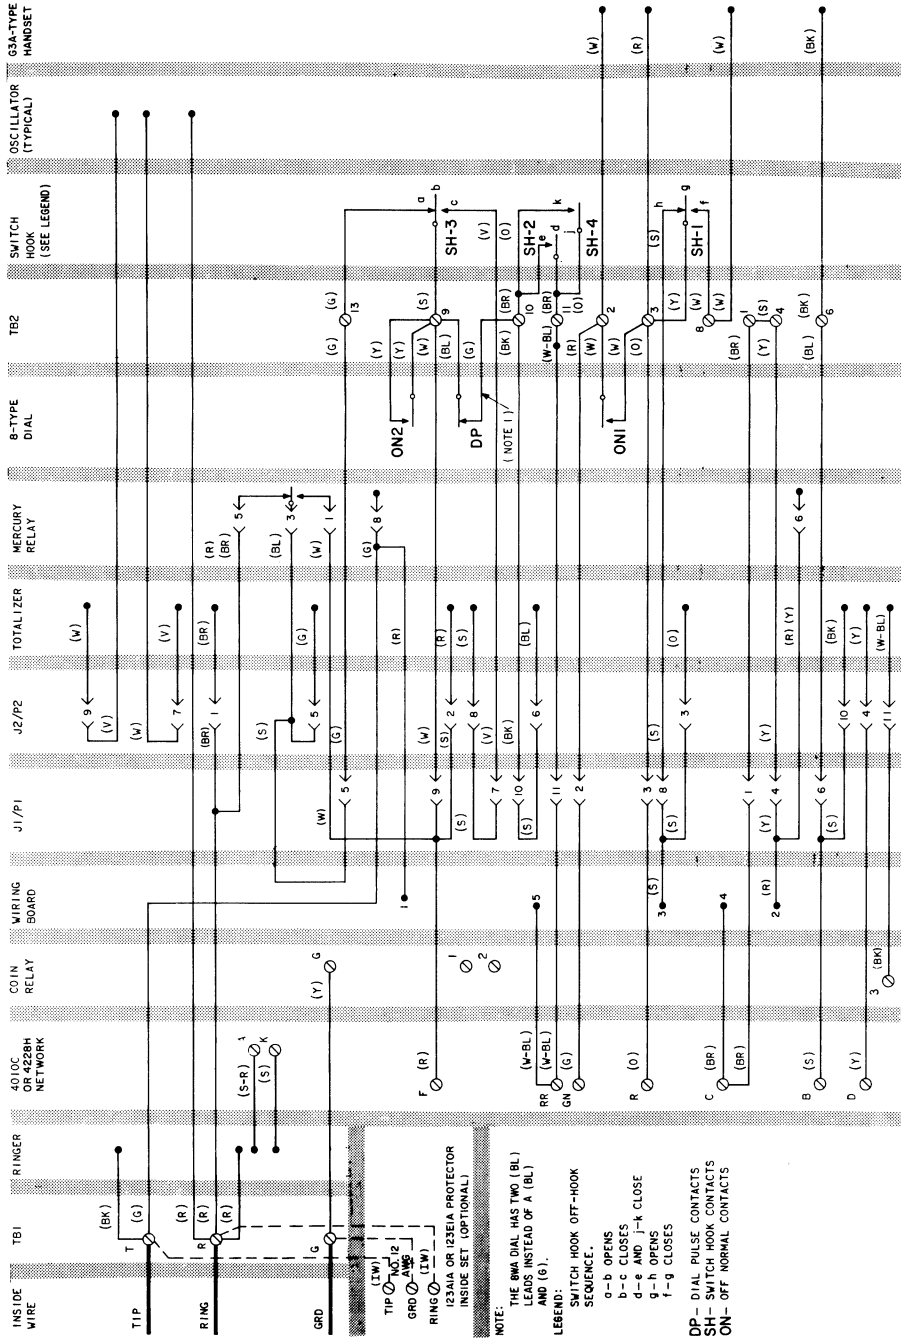

Fig. 64—1A1 of 2A1 Coin Telephone Set—Connections
**9.01** Refer to Fig. 64 through 74 for connecting diagrams.